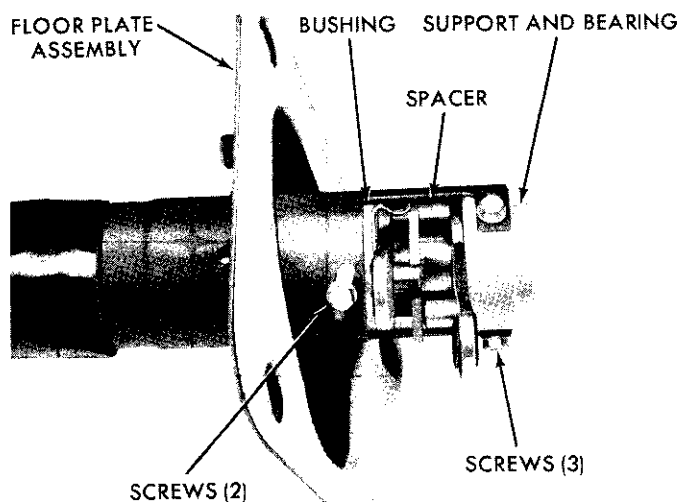

Fig. 18—Shift Tube and Levers Assembled
(2) To remove shift tube from column shift manual models, remove the three bearing support screws at lower end of jacket and the two adjustable bushing screws from cam slots in jacket. Pull the tube and lever assembly out of jacket lower end (Figs. 18 & 19).
(b) Install spacer (Fig. 18) over crossover blade so it rests against the 2nd and direct shift lever. Install low and reverse lever, then install support and bearing assembly. Install and tighten the three retaining screws to 30 inch-pounds.
(c) Rotate bushing (Fig. 18) with screws so all play at shift levers and spacer is eliminated, but no binding occurs. With bushing in this position tighten the two bushing to jacket screws to 30 inch-pounds.